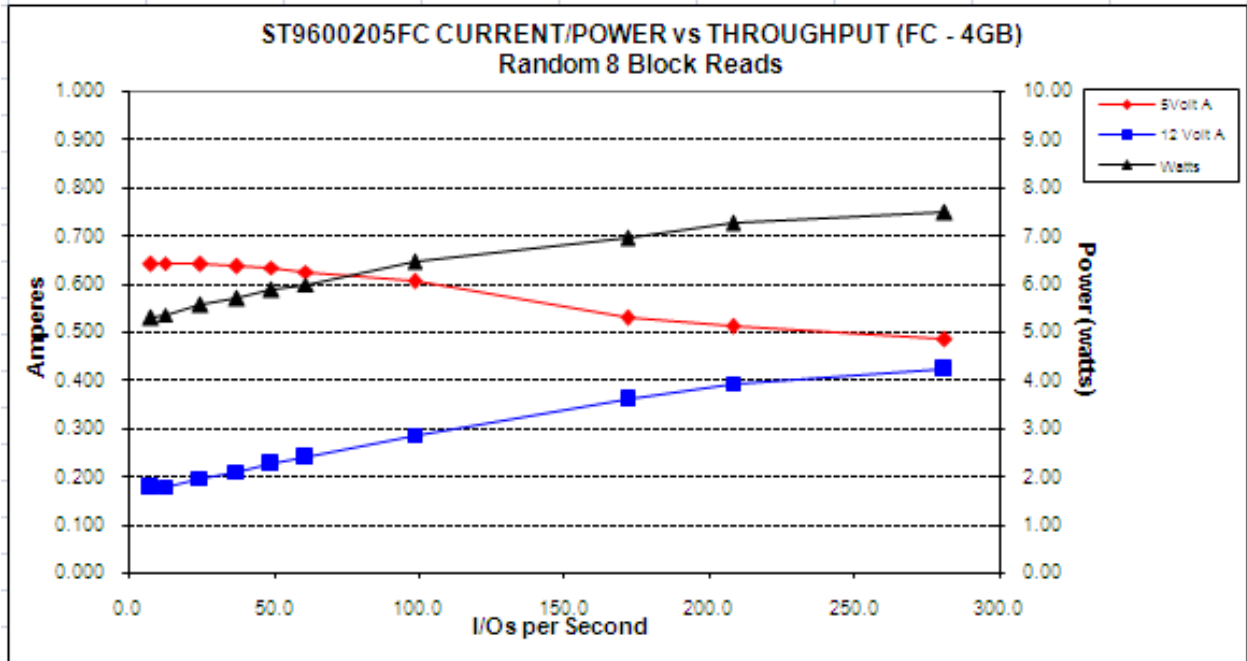

Figure 5. ST9600205FC DC current and power vs. input/output operations per second
- [3] See +12V current profile in Figure 5.
To obtain operating power for typical random read operations, refer to the following I/O rate curve (see Figure 5). Locate the typical I/O rate for a drive in your system on the horizontal axis and read the corresponding +5 volt current, +12 volt current, and total watts on the vertical axis. To calculate BTUs per hour, multiply watts by 3.4123.